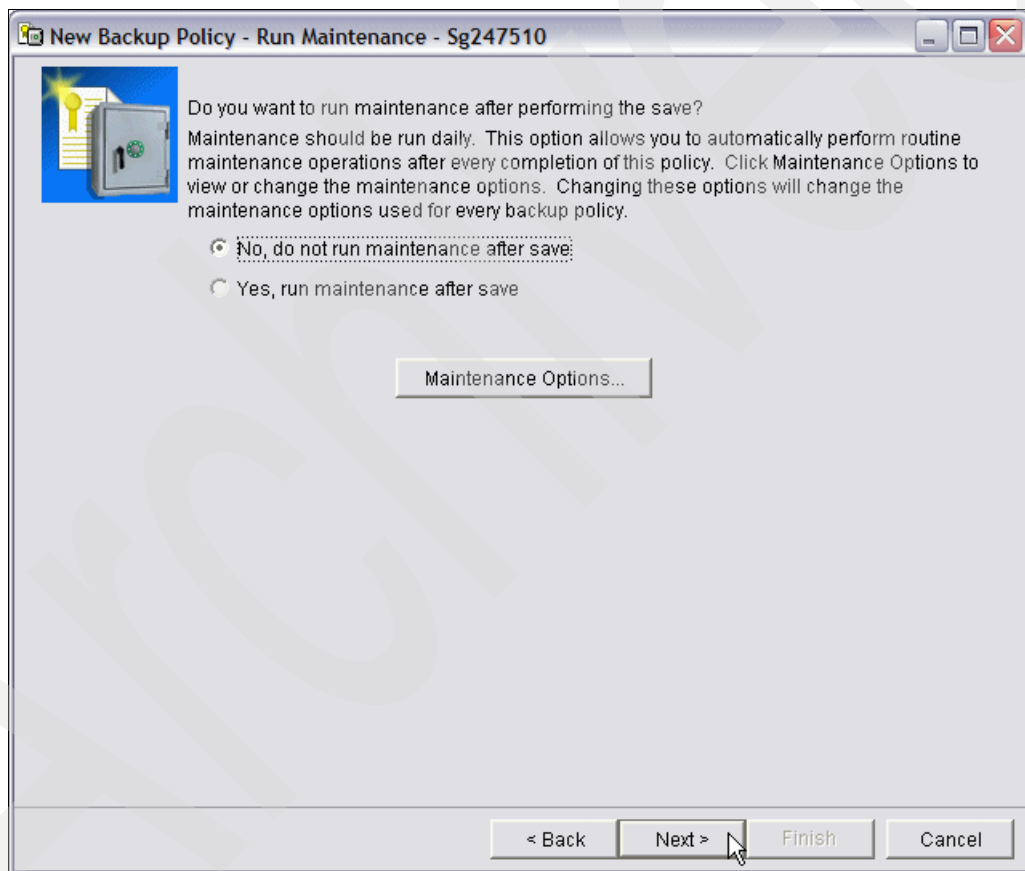

Figure 6-64 New Backup Policy - Run Maintenance
22. This opens the Run Maintenance window shown in Figure 6-64.